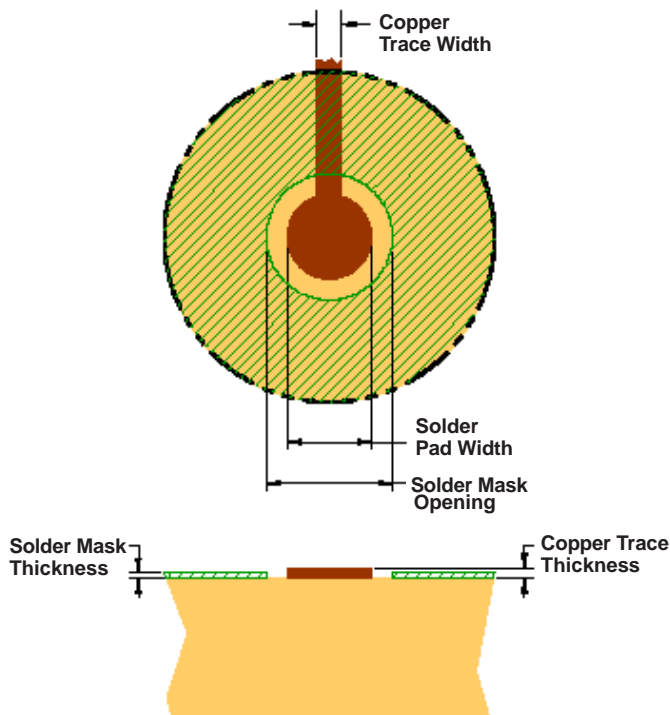

Figure 65. Land Pattern Dimensions
- When creating the pad size for the WCSP pins, TI recommends that the PCB layout use nonsolder mask-defined (NSMD) land. With this method, the solder mask opening is made larger than the desired land area and the opening size is defined by the copper pad width. Figure 65 shows and Table 34 lists appropriate diameters for a wafer-chip scale package (WCSP) layout.